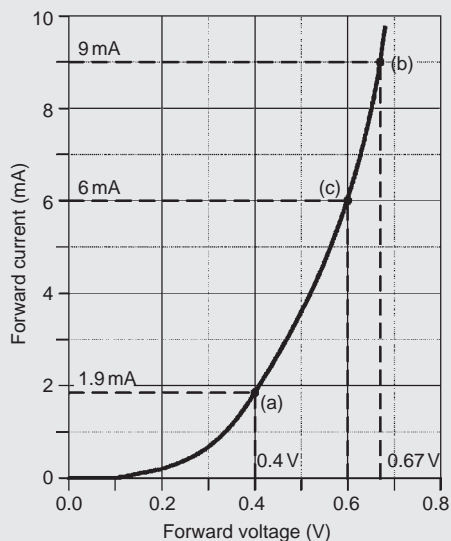

Figure 13.11
Problem 4. The forward characteristic of a diode is shown in Fig. 13.11. Use the characteristic to determine (a) the current flowing in the diode when a forward voltage of 0.4 V is applied, (b) the voltage dropped across the diode when a forward current of 9 mA is flowing in it, (c) the resistance of the diode when the forward voltage is 0.6 V and (d) whether the diode is a Ge or Si type.
- From Fig. 13.11, when $V=0.4$ V, **current flowing, $I=1.9$ mA.**